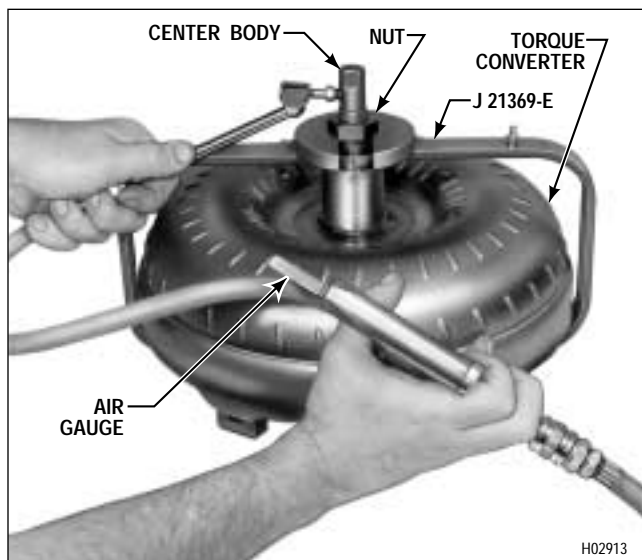

Figure 6-2. Pressurizing Torque Converter for Leak Test
(1) To check for leaks, install leak test fixture J 21369-E onto the converter (Figure 6-2). The center body must be installed first, with its nut loosened (toward top of body).
(2) Place the converter and the center body in the fixture bracket. Tighten the nut firmly to seal the center body in the torque converter hub.
(3) Pressurize the converter to 75 psi (517 kPa) maximum. Submerge the pressurized assembly in water and observe closely for bubbles that indicate leakage. If the assembly leaks, replace it.